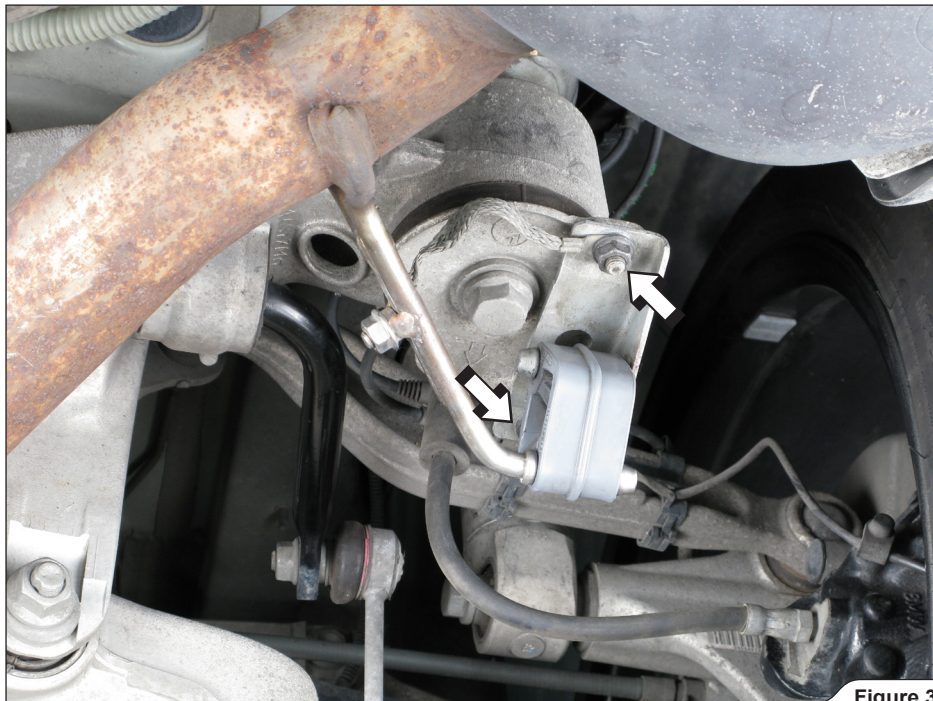

Figure 3
3. **For Slip-On and Evolution:** unscrew the marked rubber bracket nuts on both sides of the vehicle (Figure 3).